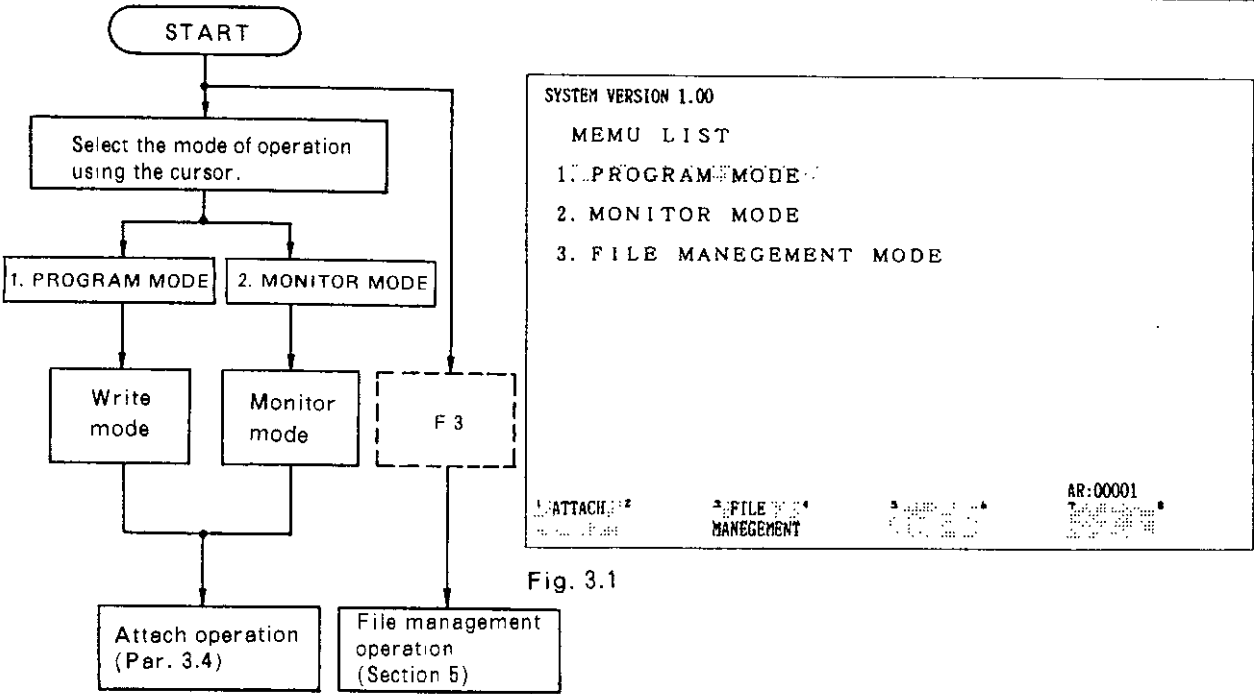

Fig. 3.1
2. To change modes after making ATTACH operations, first return to the initial display (Fig. 3.1) and select the menu again. To return the initial